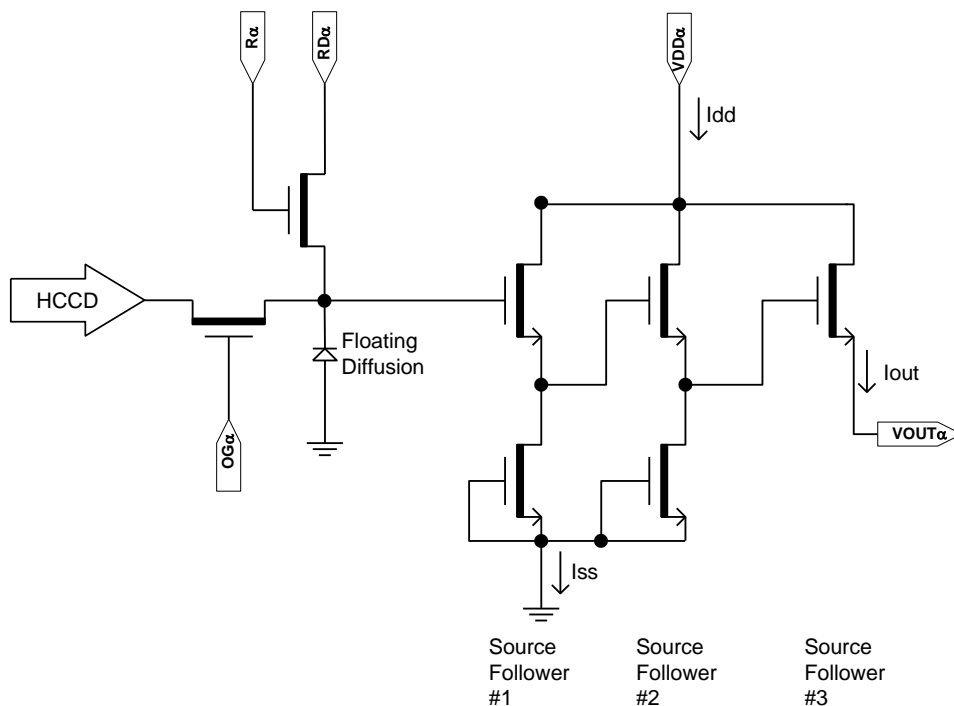

Figure 14: Output Amplifier
2. The maximum DC current is for one output. I_{dd} = I_{out} + I_{ss}. See Figure 14.